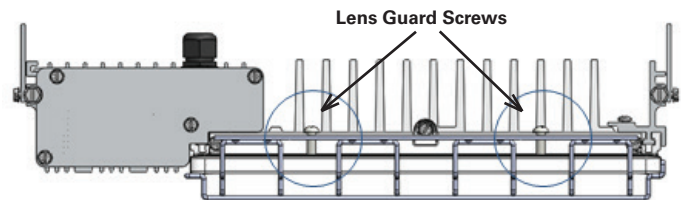

Figure 3
3. With the lens guard is in place, install and tighten the 4 screws (20in-lbs) on the lens guard as shown in Figure 3.